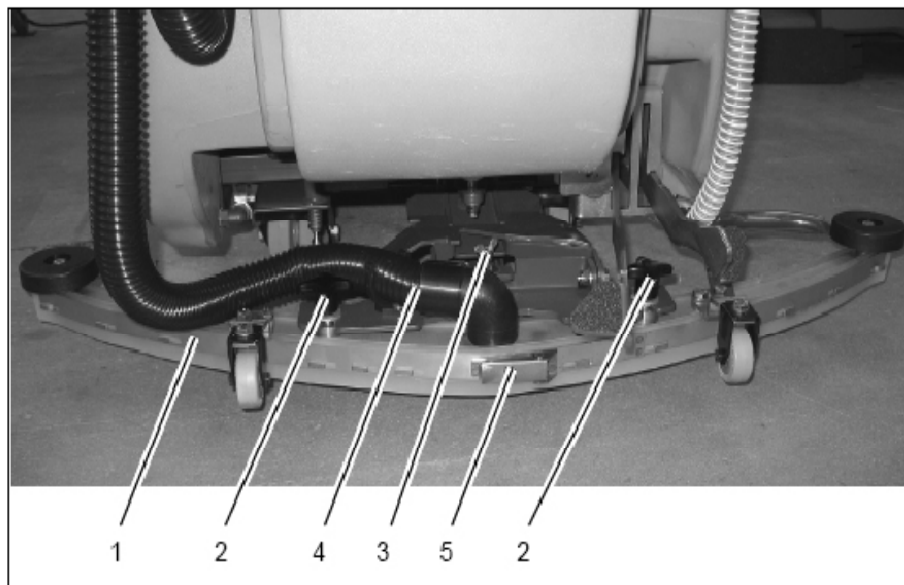

Fig.12
Clean squeegee (Fig. 12/1) at daily intervals or as required.
Lift squeegee, pull off suction hose (Fig. 12/4) loosen both star-shaped knobs (Fig. 12/2) and remove squeegee assembly.
Check inner and outer blades of Squeegee assembly (Fig. 12/1) for wear at weekly intervals. Fourfold use of the blades is possible by turning.
2. Pull off suction hose (Fig. 12/4) loosen both star-shaped knobs (Fig. 12/2) and remove squeegee assembly
3. Open toggle-type fastener (Fig. 12/5) and remove outer squeegee blade. Turn blade or install new one if required.
2. Loosen the adjustment screw (Fig. 12/3) and proceed to parallel adjustment of squeegee blades and floor. Turn adjustment screw clockwise: clearance between squeegee blade and floor in the central area widens. Turn adjustment screw counter-clockwise: clearance between squeegee blade and floor in the central area narrows.